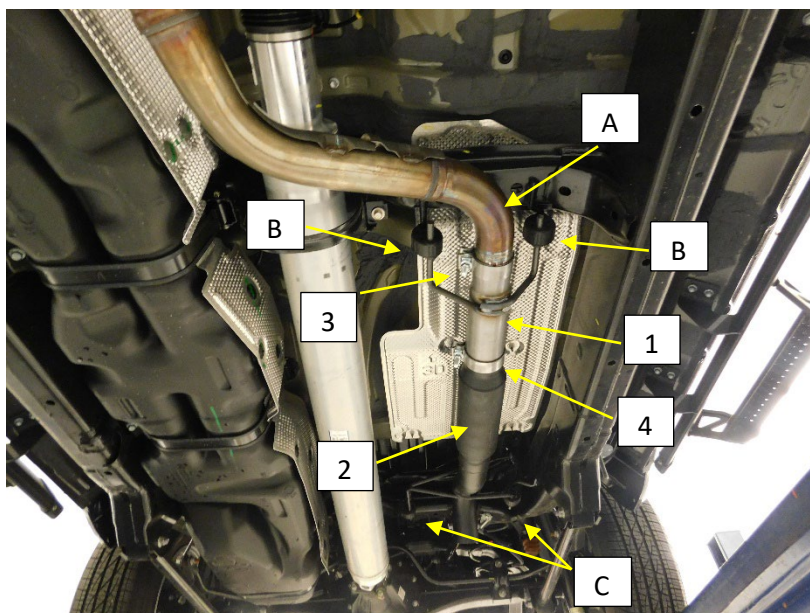

Figure.3
2. Install the 2.5" Band clamp **(3)** onto the reduced end of the Muffler Inlet pipe **(1)**. **Fig.3**
4. Install the 3.0" band clamp **(4)** on to the Muffler assembly inlet pipe. **Fig.3**
6. Install the rubber isolators **(C)** at the rear of the muffler assembly. **Fig.3**